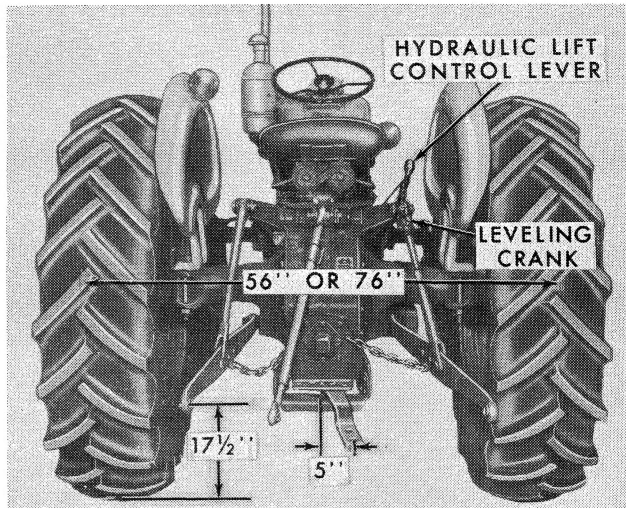

Figure 3
**Drawbar:** Position the tractor drawbar (when equipped) 5 inches to the right of center, as shown in Figure 3, so the rear drawbar hole will align with the mower bellcrank.
Lower the lift linkage with the hydraulic lift control lever until the center of the left lower link socket is 17-1/2 inches from the ground, as shown in Figure 3. Position the adjustable stop on the quadrant so it just touches the lower edge of the hydraulic lift control lever when the 17-1/2-inch dimension is maintained.